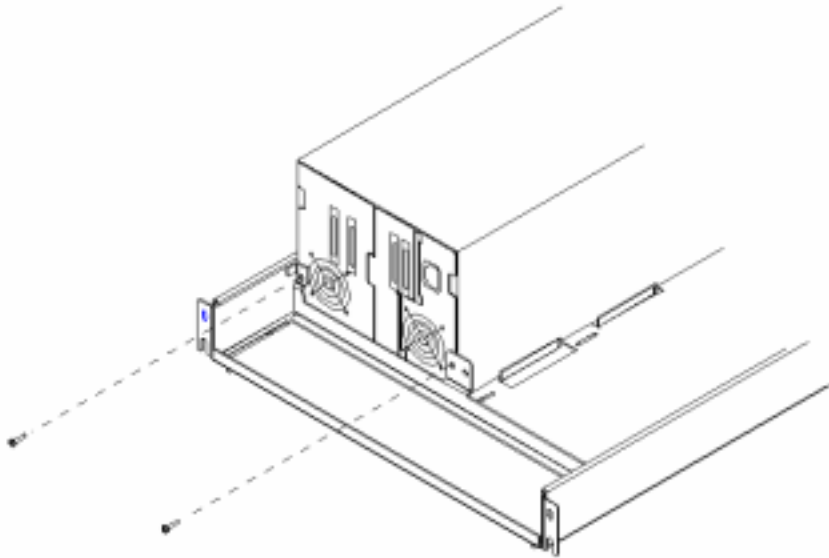

FIGURE 1-8 Securing the Autoloader
9. Secure the unit by installing two M4x10 mm screws through the backstop and into the rear panel (FIGURE 1-8).